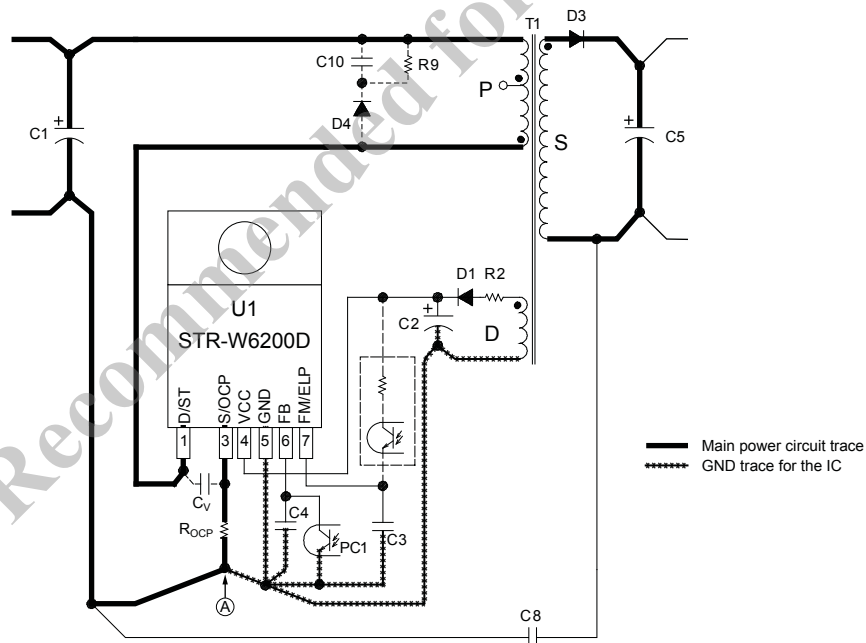

Figure 27. Peripheral circuit example around the IC
Figure 27 shows a circuit layout design example for the IC peripheral circuit and secondary smoothing circuit.
• **ROCP Trace Layout:** ROCP should be placed as close as possible to the S/OCP pin. The connection between the power ground of the main trace and the control circuit ground should be at a single point ground (A in figure 27) to remove common impedance, and to avoid interference from switching currents to the control circuit.